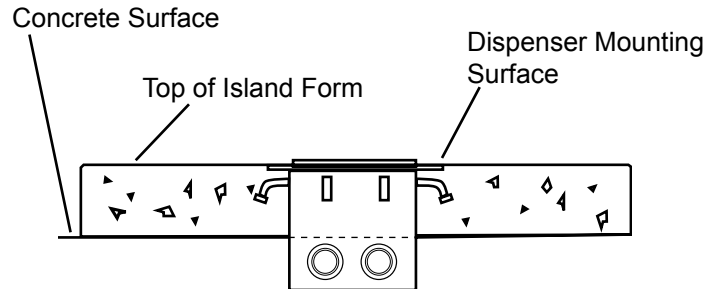

Figure 2: Sump Installation
1. Install sump base in excavated trench. Sumps must be installed at a depth where the finished level of the island form (or court if no island is used) is flush with the top of the dispenser mounting surface. Refer to Figure 2 for the location of the concrete surface.